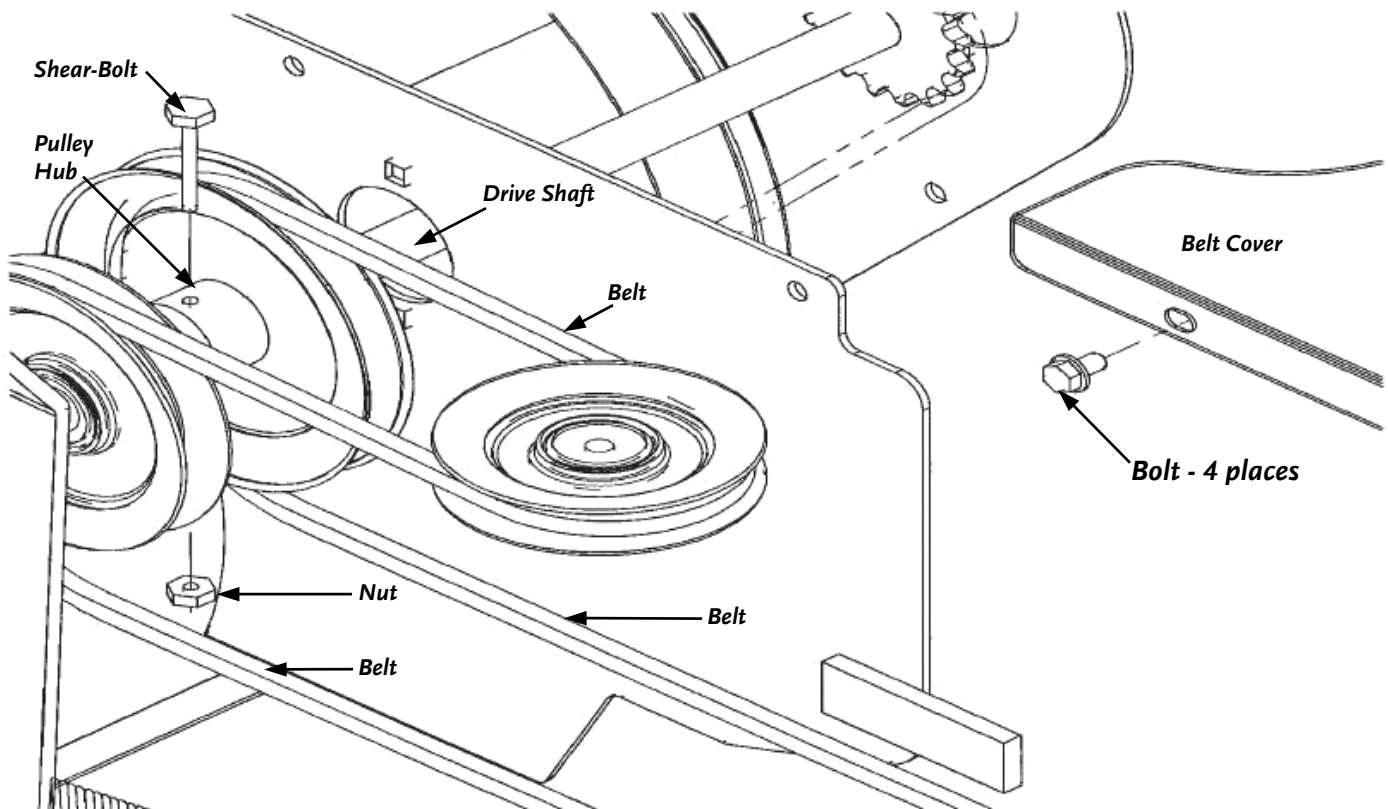

Figure 18
1. To replace the Shear-Bolt, remove the four (4) Bolts using a 1/2" Wrench or Socket that retain the Belt Cover and remove the Cover (**Figure 18**).
2. Remove any debris from the Shear-Bolt holes located in the Pulley Hub and Auger Drive Shaft (**Figure 18**).
3. Align the Shear-Bolt hole in the Pulley with the Shear-Bolt hole in the Auger Drive Shaft and insert the new Shear-Bolt (**Figure 18**). Install the supplied Nut on the Shear-Bolt with two (2) 5/16" Wrenches or Sockets until the Nut just touches the Hub and then back the Nut off 1/2 turn. The Shear-Bolt will fail prematurely if over tightened.
4. Reinstall the Belt Cover and secure with the four (4) Bolts.